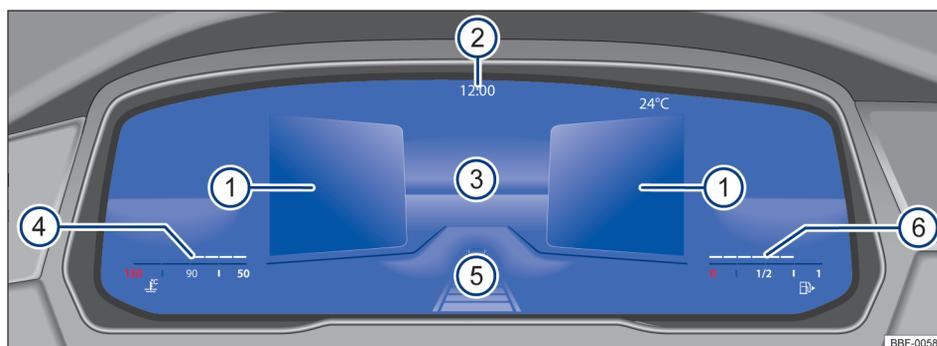

Fig. 10 Active Info Display on the dash panel (version 2).
Explanations to the instruments → Fig. 10:
The main display → Fig. 10③ can be switched by pressing **View** on the multifunction steering wheel. The representation in the display area can show the following views:
- **Summary:** after completing the readiness check: displays information on vehicle status in areas ①, such as current mileage.